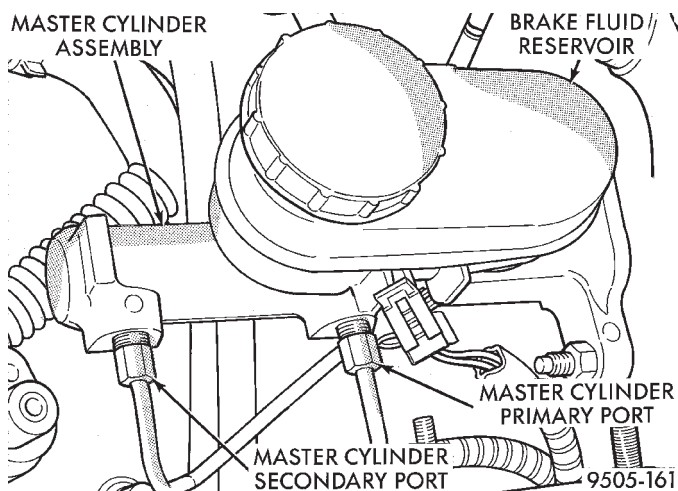
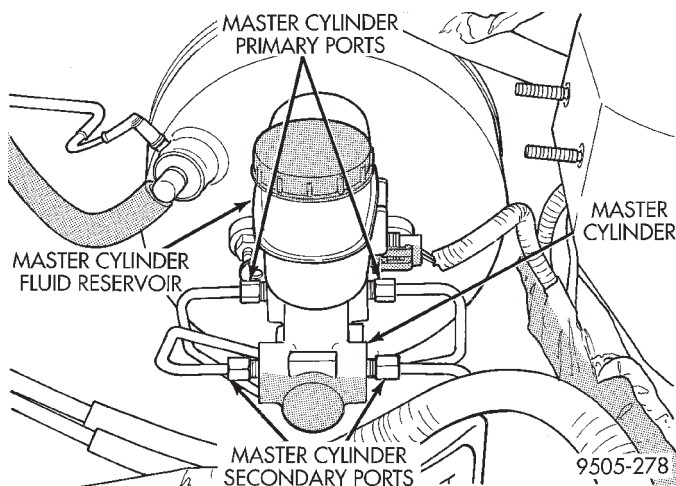

**Fig. 82 Master Cylinder Primary And Secondary Ports With ABS**
**Fig. 83 Master Cylinder Primary And Secondary Ports Without ABS**
(2) Disconnect the primary and secondary brake tubes from the master cylinder outlet ports (Fig. 82) (Fig. 83). Install plugs at all open brake tube outlets on master cylinder assembly.
(4) Connect brake tubes to master cylinder primary and secondary ports (Fig. 82). Then tighten the tube nuts to a torque of 17 N·m (145 in. lbs.).